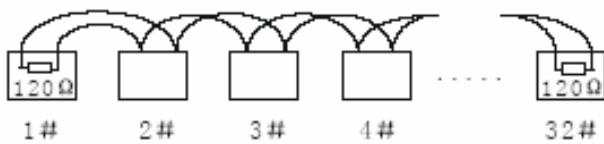
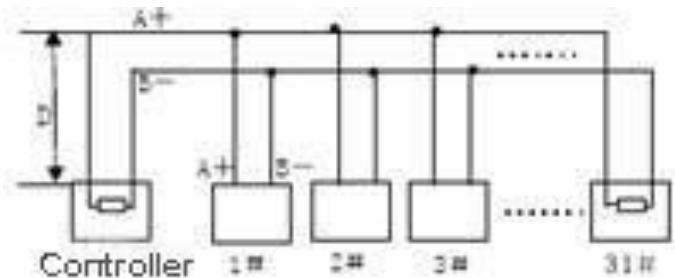

Fig 26
Fig 27
As shown in fig. 26 and fig. 27 is simplified connection, but the distance of part "D" shall not beyond 7 meters.
2.2  $120\Omega$  terminal resistance is connected as shown in fig 27.